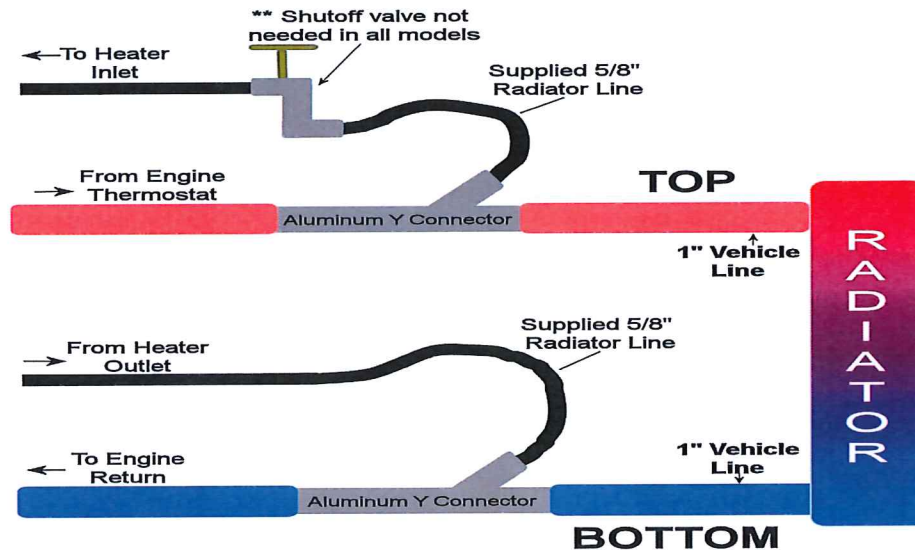

Figure 6c
4. Insert the Y Connectors exactly as shown in Figure 6c in the radiator hoses and secure with the supplied #16 Hose Clamps.